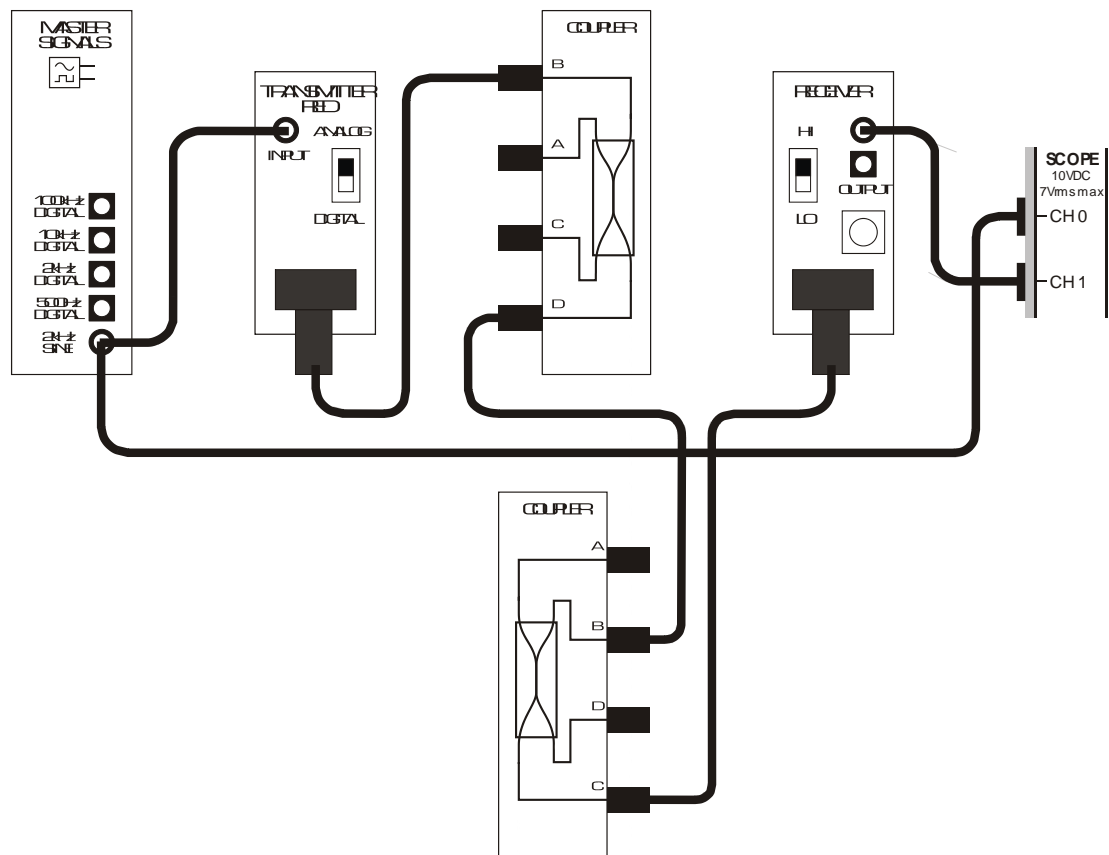

Figure 2: Coupler patching diagram
- Connect the set-up shown in Figure 2 below using the Transmitter and Receiver modules you adjusted for Steps 8 to 10.